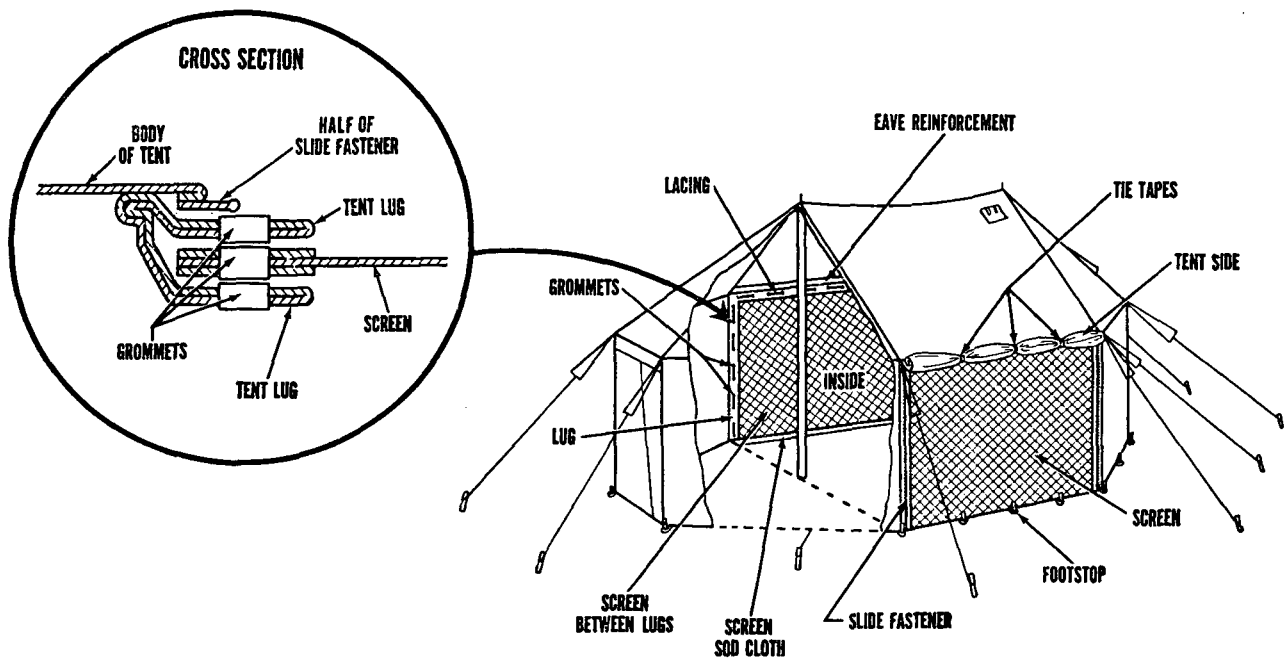

Figure 17. Attaching screens to sidewalls of tent, command post, M-1945.
(3) Attaching screens to sidewalls (fig 17). Remove footstops from sidewalls, open slide fasteners at corners and roll up sidewalls and liner of tent and tie them with tie tapes near eave reinforcement. Then place a screen between lugs at each side of tent, aligning grommets on screen with grommets on lugs. Run the 13-foot rope, attached to a top corner of screen, through aligned grommets of screen and lugs at the top, securing with a knot at the last set of aligned grommets. In the same manner, run the 8-foot rope, attached to each side of screen, downward through aligned grommets of screen and lugs, securing with a knot at the last set of aligned grommets. Fold screens at bottom so sod cloths are on ground inside tent. Fasten footstops that were removed from sidewalls to grommets at bottoms of screens, and attach footstops to the 16-inch pins.